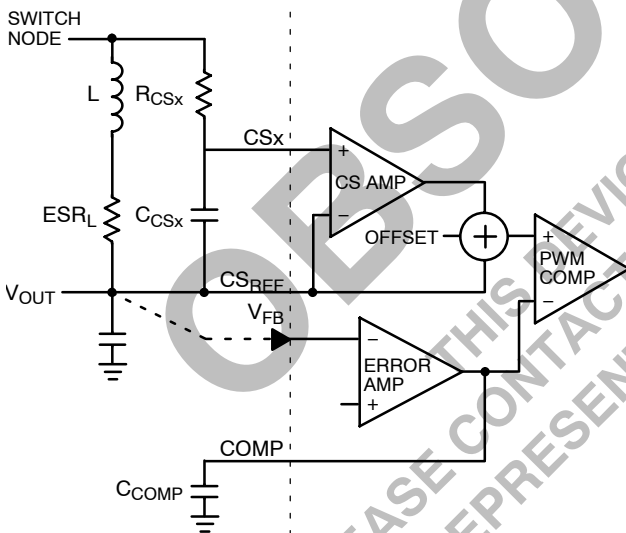

Figure 27.
The Enhanced  $V^2$  architecture measures and adjusts current in each phase. An additional input (CSx pin) provides current information for each output phase to the control loop as shown in Figure 27. Inductor current is measured across capacitor Ccsx. The voltage across this capacitor is equal to the product of the output current and the inductor ESR if these components are chosen such that  $(Ccsx)(Rcsx) = (L)/ESR_L$ . This signal is buffered by the current sense amplifier (unity gain in the CS5305) and summed with an offset voltage before it is presented as input to non-inverting input of the PWM comparator. Inductor current provides the PWM ramp. As inductor current
Current can be sensed across the inductor as shown in Figure 27. The output inductor is designated L and the inductor's equivalent series resistance is designated  $ESR_L$ . In the ideal case, the values of Rcsx and Ccsx are chosen such that  $(L/ESR_L) = (Rcsx)(Ccsx)$ . If this criterion is met, the current sense signal will have the same shape as the inductor current, and the circuit can be analyzed as if a sense resistor with value equal to  $ESR_L$  was placed in series with the inductor. However, these components also determine the ramp signal that is used to prevent pulse skipping and duty cycle jitter. Choosing  $(Rcsx)(Ccsx) < (L/ESR_L)$  will result in the AC portion of the current sense signal being scaled more than the DC portion. This results in a larger ramp signal, but the current signal will overshoot during transients. This will affect transient response, adaptive voltage positioning and current limit. The COMP pin voltage will overshoot along with the current signal in order to maintain the output voltage. The COMP voltage will eventually find the correct level for regulation, but the error